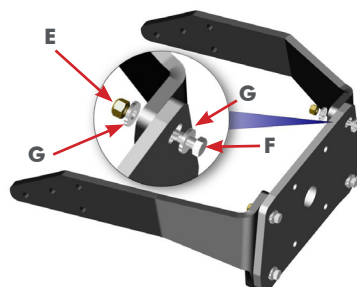

Figure 2
STEP 2 Put the mounting bracket together as illustrated **FIG. 2** (Do not fully tighten yet). Re-check clearances with loosely assembled bracket.